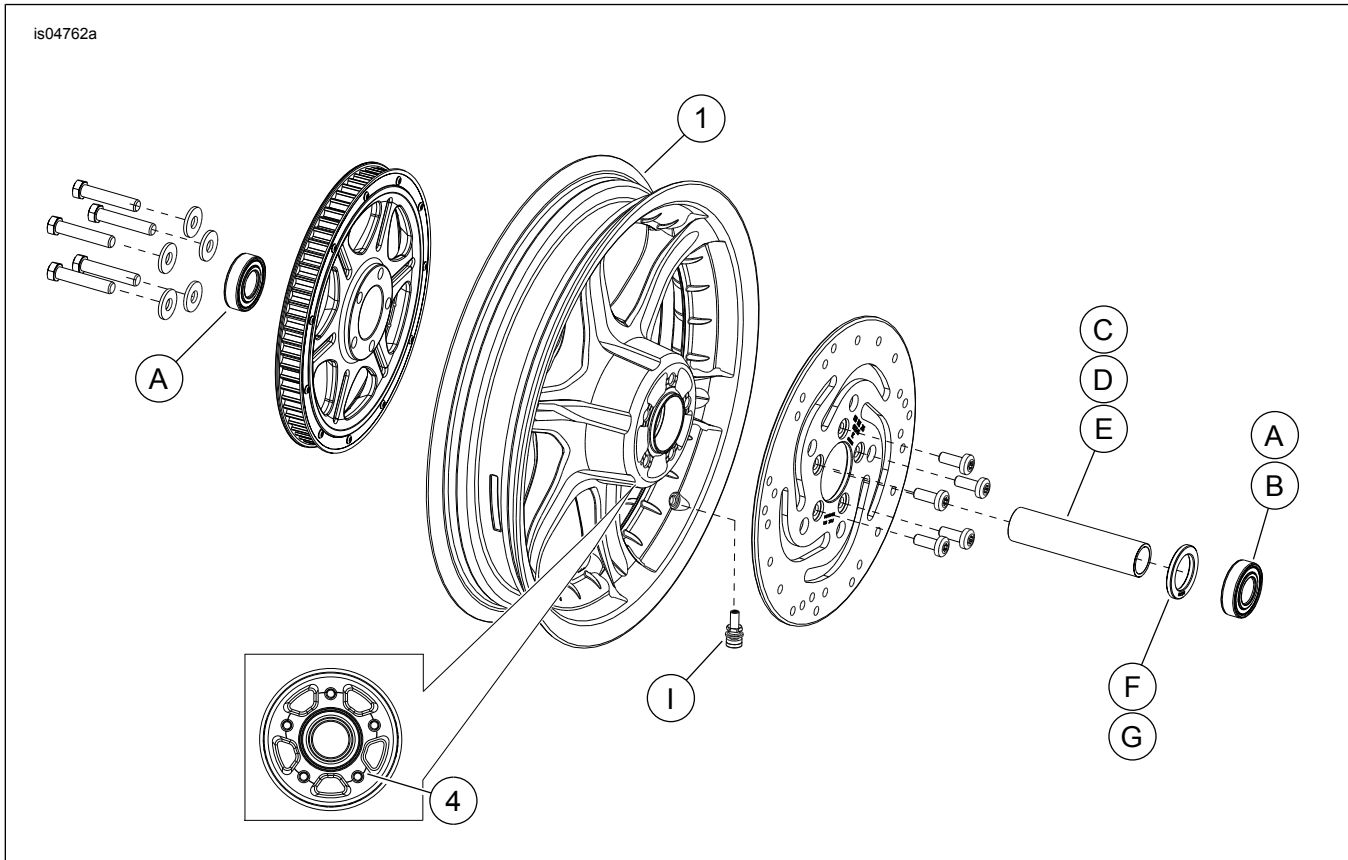

Figure 1. Service Parts: Rear Slotted Six-Spoke Wheels (16-inch Shown)
See Figure 1 and Service Parts Tables.
- See Figure 1. Install valve stem assembly (I) on wheel. Refer to TIRES in service manual.